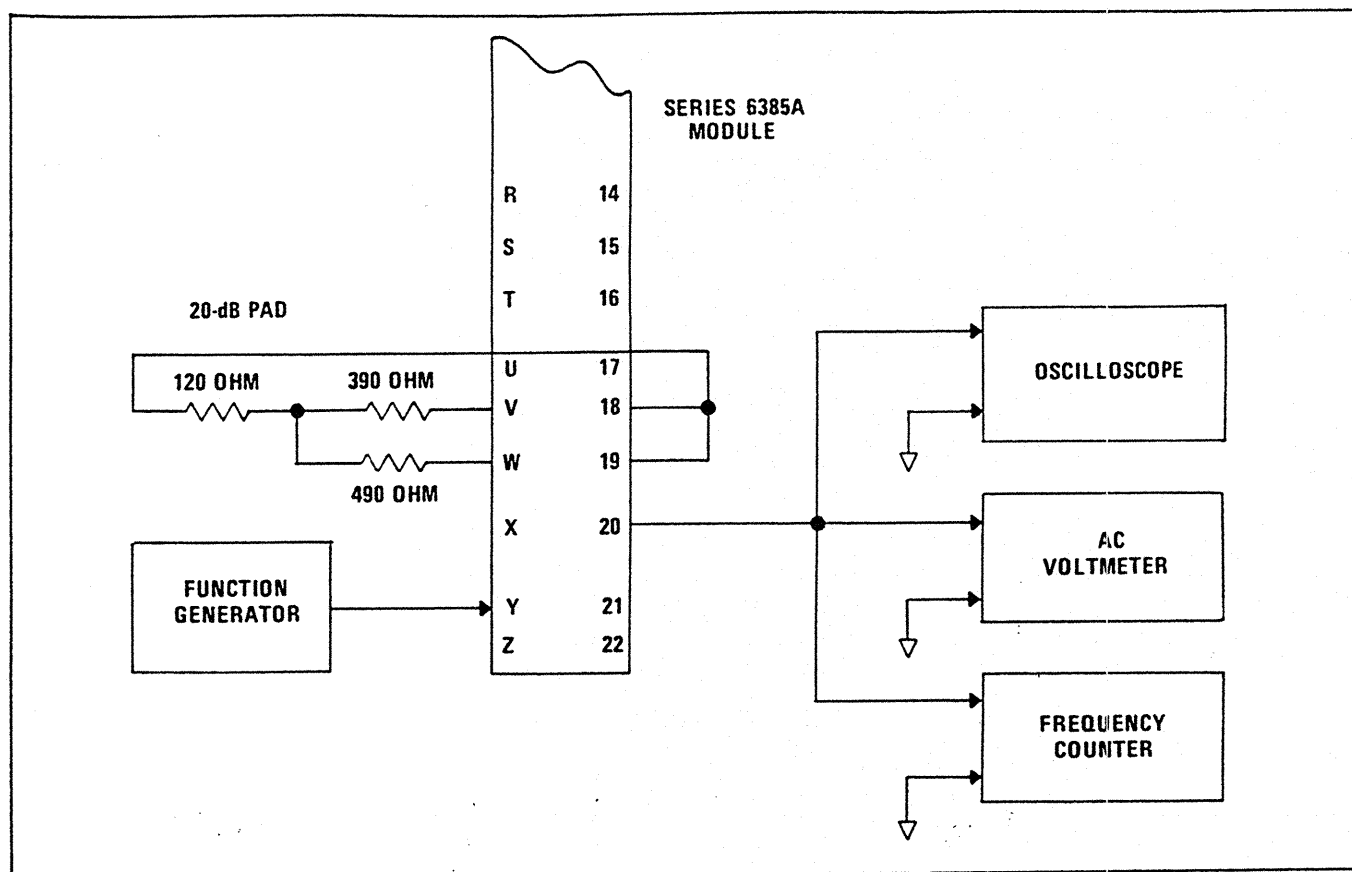

Figure 4. Test Equipment Connections For Calibration, Series 6385A Frequency-Shift Modems.
4. Connect test equipment as shown in figure 4.